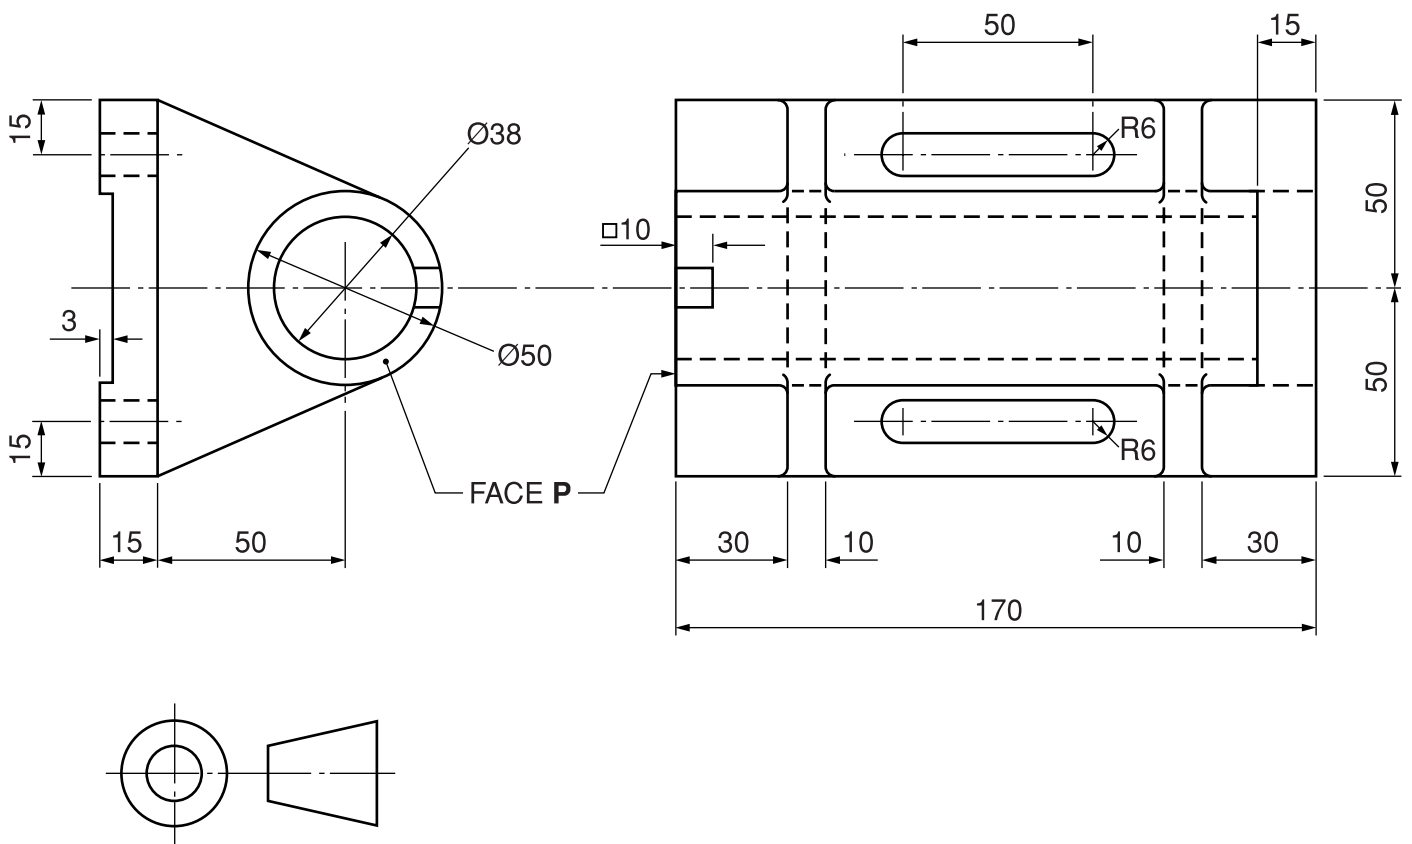

Fig. 1
- 1 Orthographic views of a support bracket are shown in third angle projection in Fig. 1. The dimensioning of the views is incomplete and is only a guide to the general proportions of the bracket.